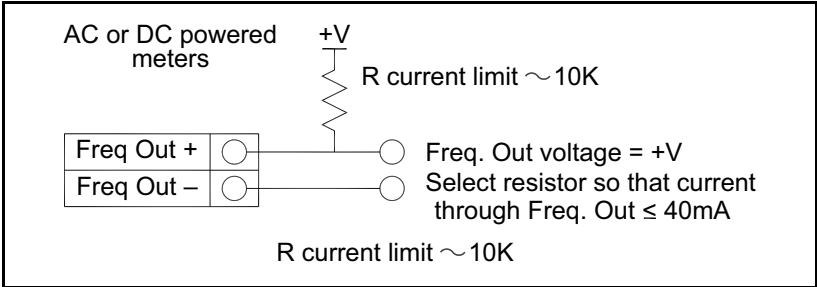

Figure 35: Isolated Frequency Output Using External Power Supply
- For AC or DC powered meters, use a separate 5 to 36 VDC power supply (see *Figure 35 on page 41*). Use this option if a specific voltage is needed for the frequency output.